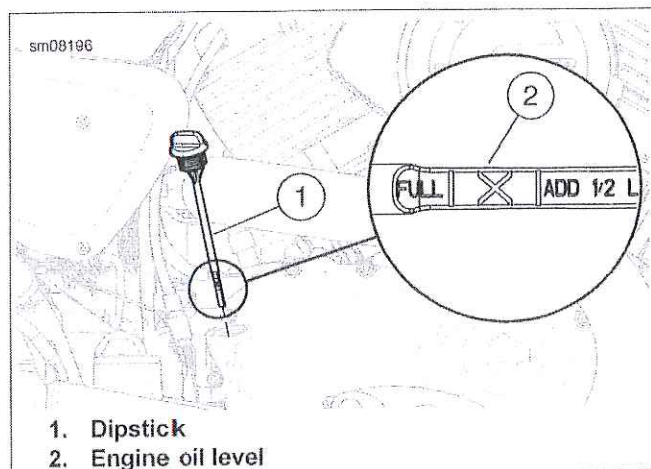

Figure 2-1. Engine Oil Level
2. See Figure 2-1. Remove dipstick (1) and wipe clean.
3. See Figure 2-1. Remove dipstick (1) and wipe clean.